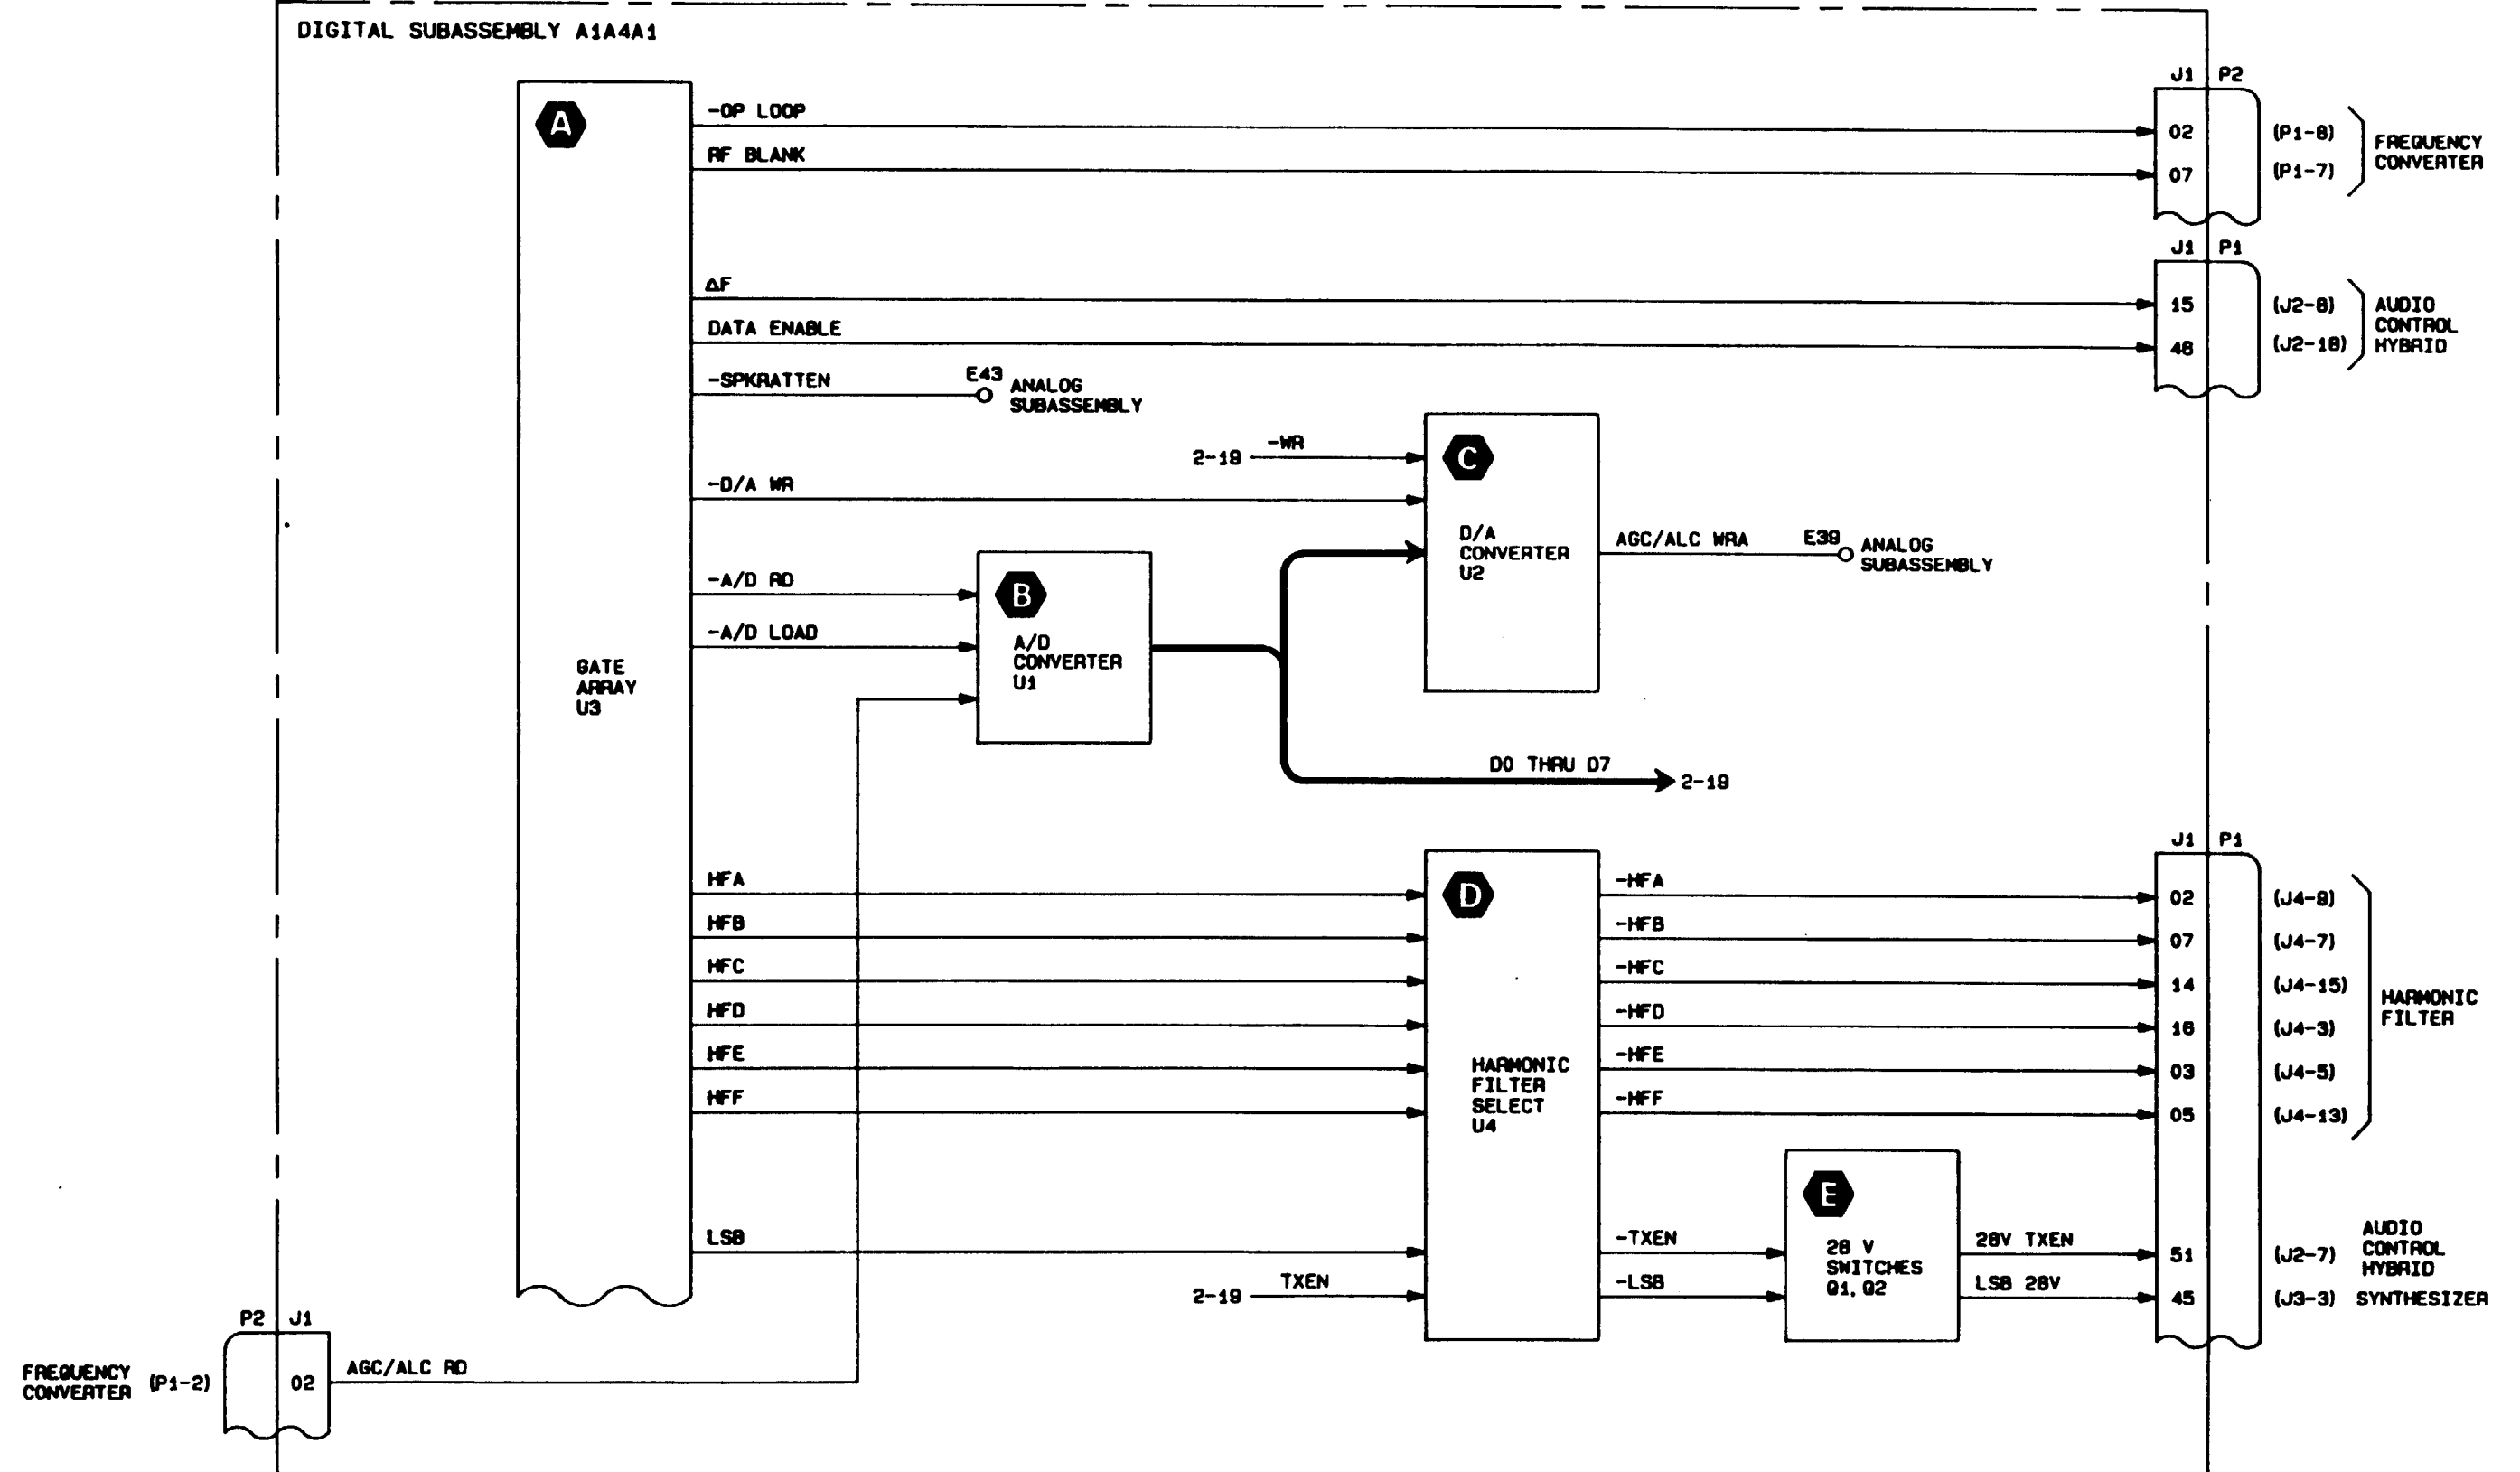

Figure 2-7. Control Interface Assembly (Sheet 2)
**CONTROL INTERFACE ASSEMBLY (5 of 7), fig 2-7, sh 3**